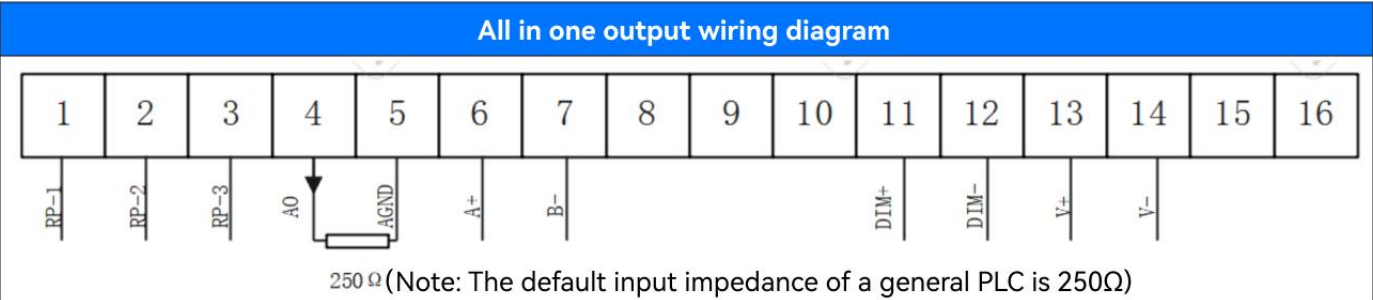
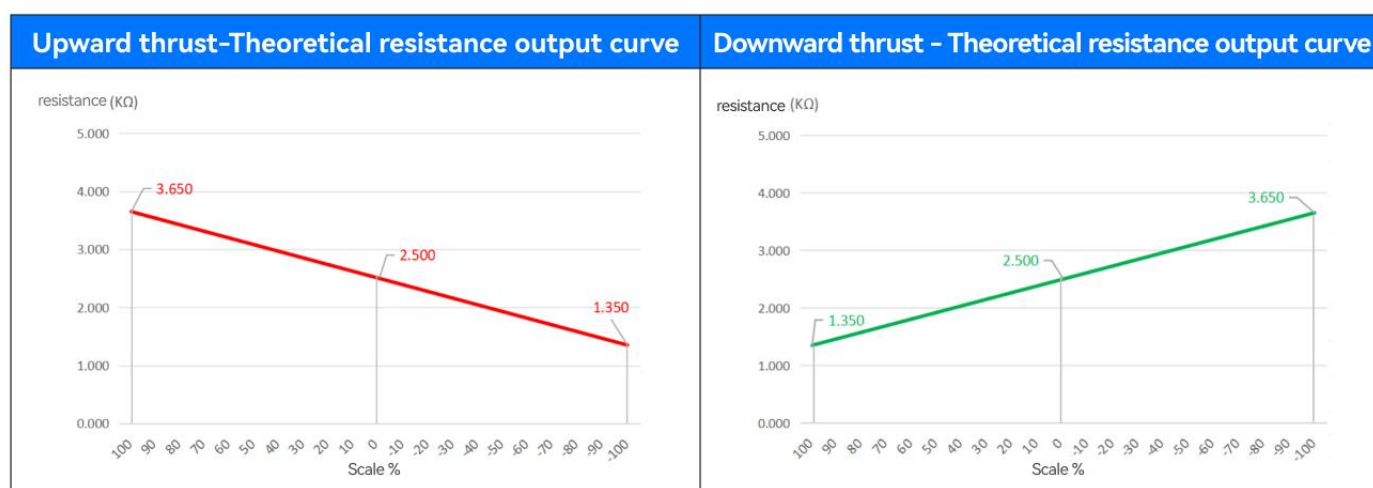
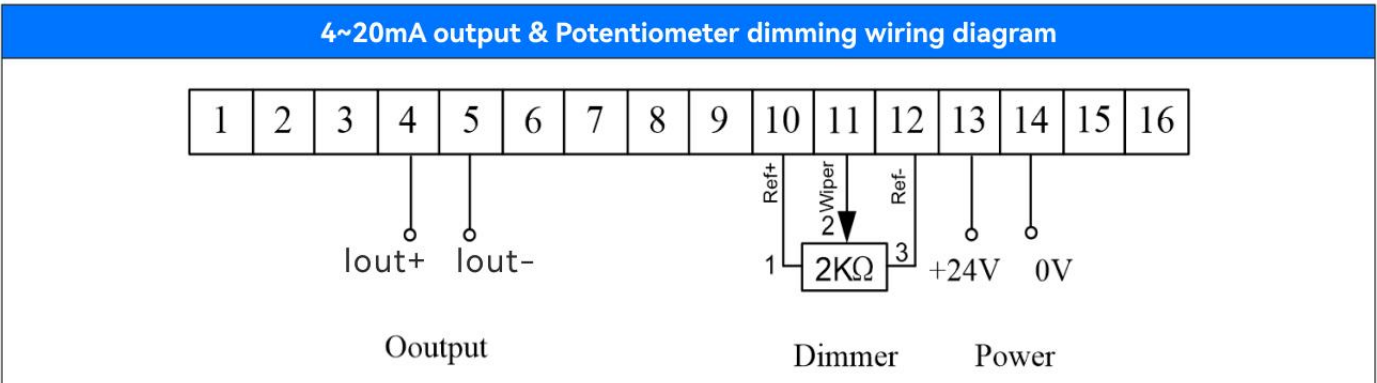
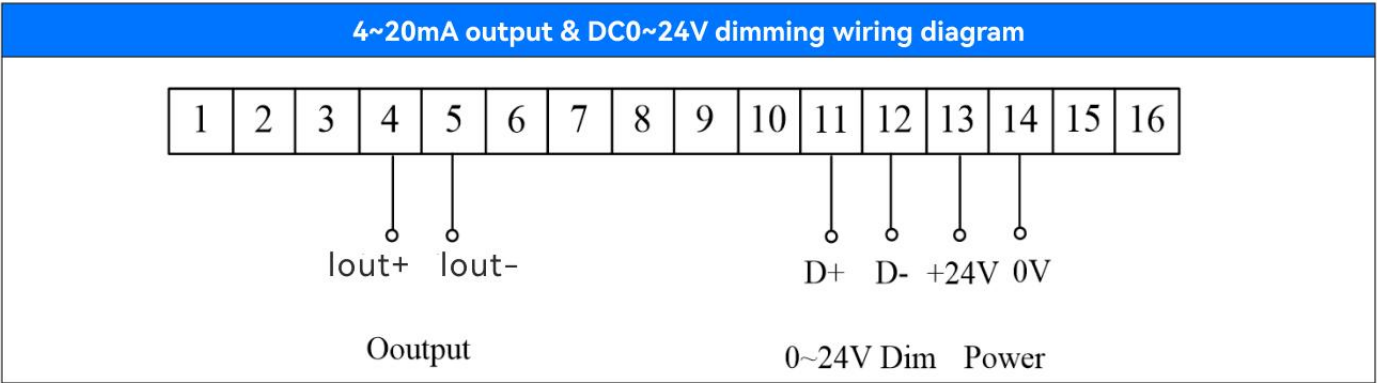

Figure 1.5
Figure 2.1
Figure 2.6
Figure 2.7
5. Output mode: direct potentiometer linear output, linear relationship with the scale, the theoretical output is shown in Figure 2.1, the actual output is seen in the product factory inspection report.
6. Output signal: The handle can provide a variety of optional output signals for the control system, including the potentiometer direct output, 4~20mA. Please refer to Figure 1.5 for the connection of the direct output type of potentiometer, and Figure 2.1 for the corresponding relationship. Figure 2.6 shows the cable connections for 4 to 20mA outputs. Under normal circumstances, the corresponding relationship of the output signal is: the scale -100% corresponds to the 4mA output, the scale 0 corresponds to the 12mA output, and the scale +100% corresponds to the 20mA output.
7. Backlight adjustment mode: the thin film of the handle adopts cold light source design, the brightness can be adjusted, and the dimming mode includes resistor adjustment (among which the dimming mode of the resistor is only suitable for our model VDM-96 dimmer, the resistance value is 2KΩ, the wiring is shown in Figure 1.5), 0-24V voltage adjustment, PWM. For 0-24V dimming signals, the dimming signal is the darkest at 0V and the brightest at 24V. Note that the dimming signal and the power signal cannot be shared, otherwise the handle signal output will be affected, resulting in failure to work normally. The wiring diagram is shown in Figure 2.7.
3. According to the characteristics of the accessories used in this product, the instantaneous input voltage shall not exceed 20% of the range specified in Figure 1.5 at any time. Avoid excessive instantaneous current and burning accessories.